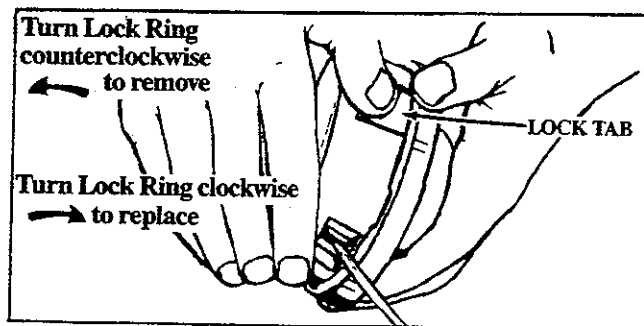

Figure 16
- Hold the Trimmer Head as shown in Figure 16. Press the Lock Tab and turn Cover counterclockwise.
- Align the Lock Ring over the three Catches on the Hub. Push the Lock Ring down on the Hub and turn clockwise. Figures 16 and 17.